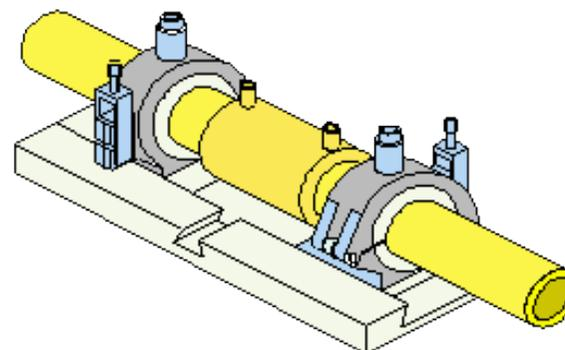

Figure D9 – PE Clamped Prior to Fusion
40. Assemble the alignment clamp on to the main, visually check pipe alignment in all planes and where applicable check free rotation of the coupler to create a stress free joint. Figure D9.